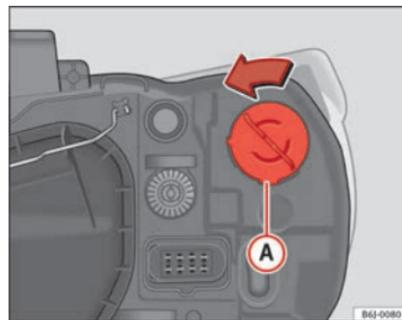

Fig. 144 Single turn signal lamp
- Rotate the bulb holder ⇒ fig. 144 Ⓐ to the left and pull.